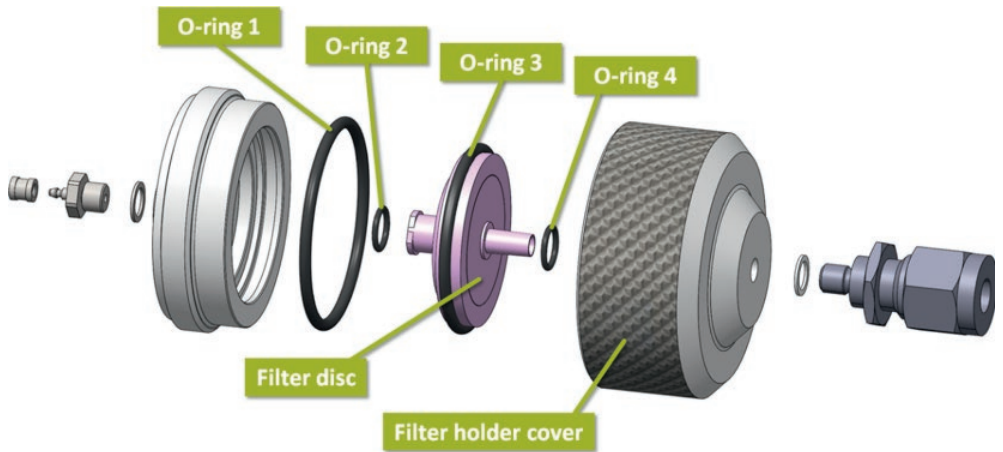

Figure 82. Exploded view of the filter holder for replacing the particle filter and O-rings.
5. Open the filter holder cover by rotating it counterclockwise. An exploded view of the filter holder is shown in Figure 82.